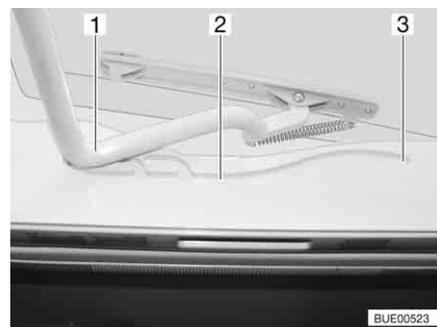

Fig. 71 Heki skylight, guide
- Pull the bar (Fig. 71,1) in the guides (Fig. 71,2) to the rearmost position (Fig. 71,3).
- Use both hands to push the bar (Fig. 71,1) slightly upwards.
- Pull the bar in the guides (Fig. 71,2) to the desired position.